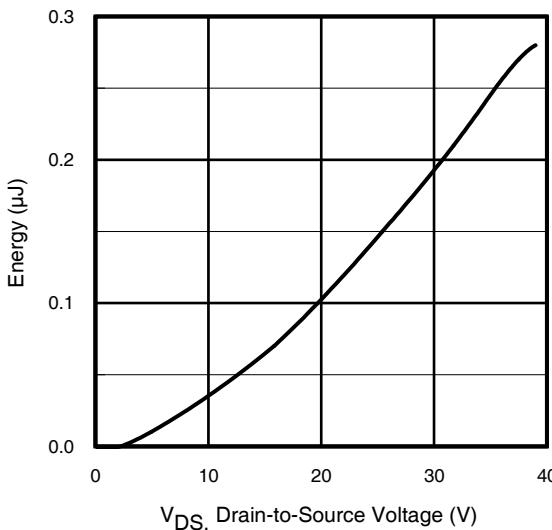

Fig. 11 Typical Coss Stored Energy
- ① Calculated continuous current based on maximum allowable junction temperature. Bond wire current limit is 100A by source bonding technology. Note that current limitations arising from heating of the device leads may occur with some lead mounting arrangements. (Refer to AN-1140)
- ② Repetitive rating; pulse width limited by max. junction temperature. (See fig. 11)
- ③ Limited by $T_{J\text{max}}$, starting $T_J = 25^\circ\text{C}$, $L = 0.037\text{mH}$, $R_G = 50\Omega$, $I_{AS} = 60\text{A}$, $V_{GS} = 10V$.
- ④ $I_{SD} \leq 60\text{A}$, $di/dt \leq 918\text{A}/\mu\text{s}$, $V_{DD} \leq V_{(\text{BR})\text{DSS}}$, $T_J \leq 175^\circ\text{C}$.
- ⑤ Pulse width $\leq 400\mu\text{s}$; duty cycle $\leq 2\%$.
- ⑥ $C_{oss\text{ eff. (TR)}}$ is a fixed capacitance that gives the same charging time as C_{oss} while V_{DS} is rising from 0 to 80% V_{DSS} .
- ⑦ $C_{oss\text{ eff. (ER)}}$ is a fixed capacitance that gives the same energy as C_{oss} while V_{DS} is rising from 0 to 80% V_{DSS} .
- ⑧ When mounted on 1" square PCB (FR-4 or G-10 Material). For recommended footprint and soldering techniques refer to application note #AN-994
- ⑨ R_θ is measured at T_J approximately 90°C .
- ⑩ This value determined from sample failure population, starting $T_J = 25^\circ\text{C}$, $L=0.037\text{mH}$, $R_G = 25\Omega$, $I_{AS} = 60\text{A}$, $V_{GS} = 10V$